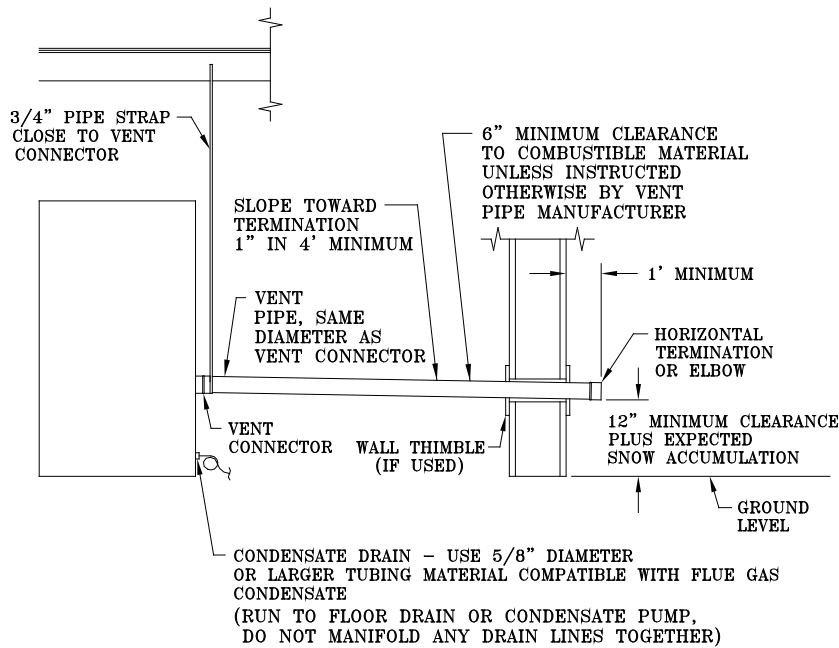

Figure 2: Sidewall Positive Pressure Venting
- e. See Figures 2, 3 and 4 for examples of positive pressure venting arrangements.